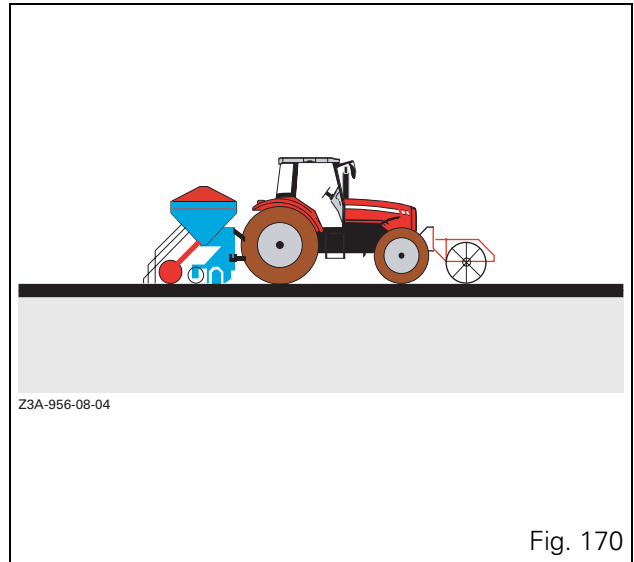

Fig. 170
- Set the front and rear implements in the low position (Fig. 170) using the following controls: